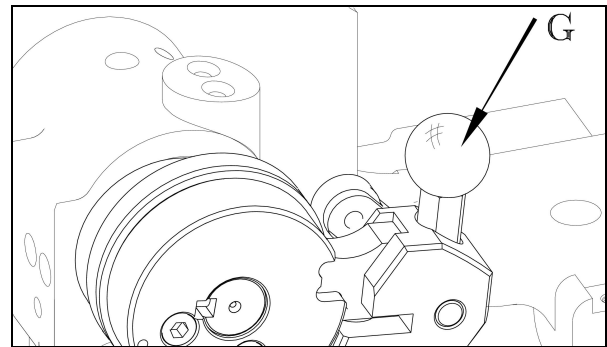

Fig 2
In making the following adjustments, use a new needle. Insert a thick piece of paper under the clamps. Unlock the machine by pushing back on knob (G) as shown in Fig 2. Manually turn the machine through the stitching cycle, making needle imprints on the paper.